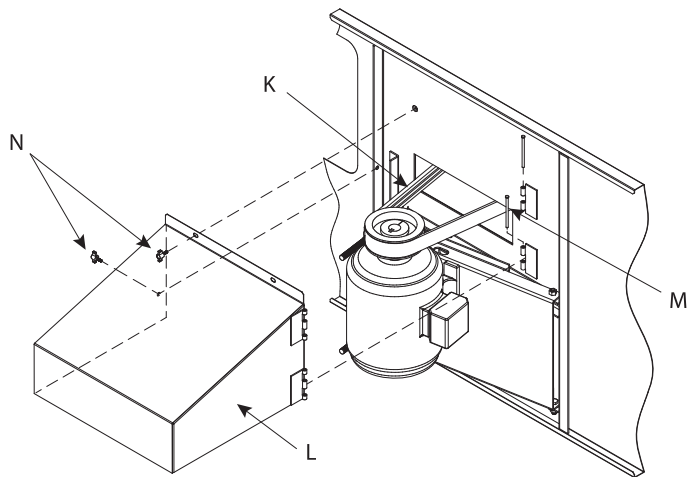

Figure 18b - Motor Guard and Power-Band Belt Installation
7. Install Power-Band belt **K** (Figure 18b) around fan sheave and motor sheave. Tighten belt by adjusting nuts on "J" bolts. Do not overtighten the belts. The center of the belt should deflect approximately 3/4" (19mm) in the horizontal plane with moderate hand pressure.
10. To install motor guard **L**, match up hinges and install hinge pins **M** as shown in Figure 18b.